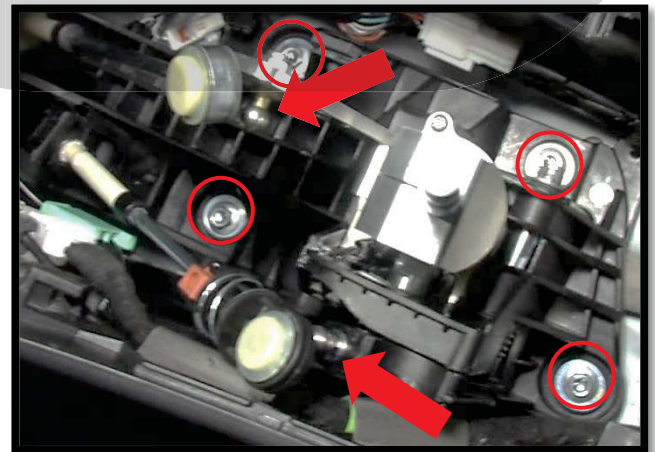

Figure 6a
- a) Guide the shifter housing assembly back into the center console. Pull the shifter cables and wiring out of the way (Figure 6a).
- b) Line the holes in the housing to the threaded holes in the floor of the console. Use a 10mm socket to fasten the four (4) screws you removed in step 1g (red circles in Figure 6a).
- d) Lock the shifter throw adjustment ball stud into place and push the shifter cable ends for both throw and side action cables onto the shifter (red arrows in Figure 6a).